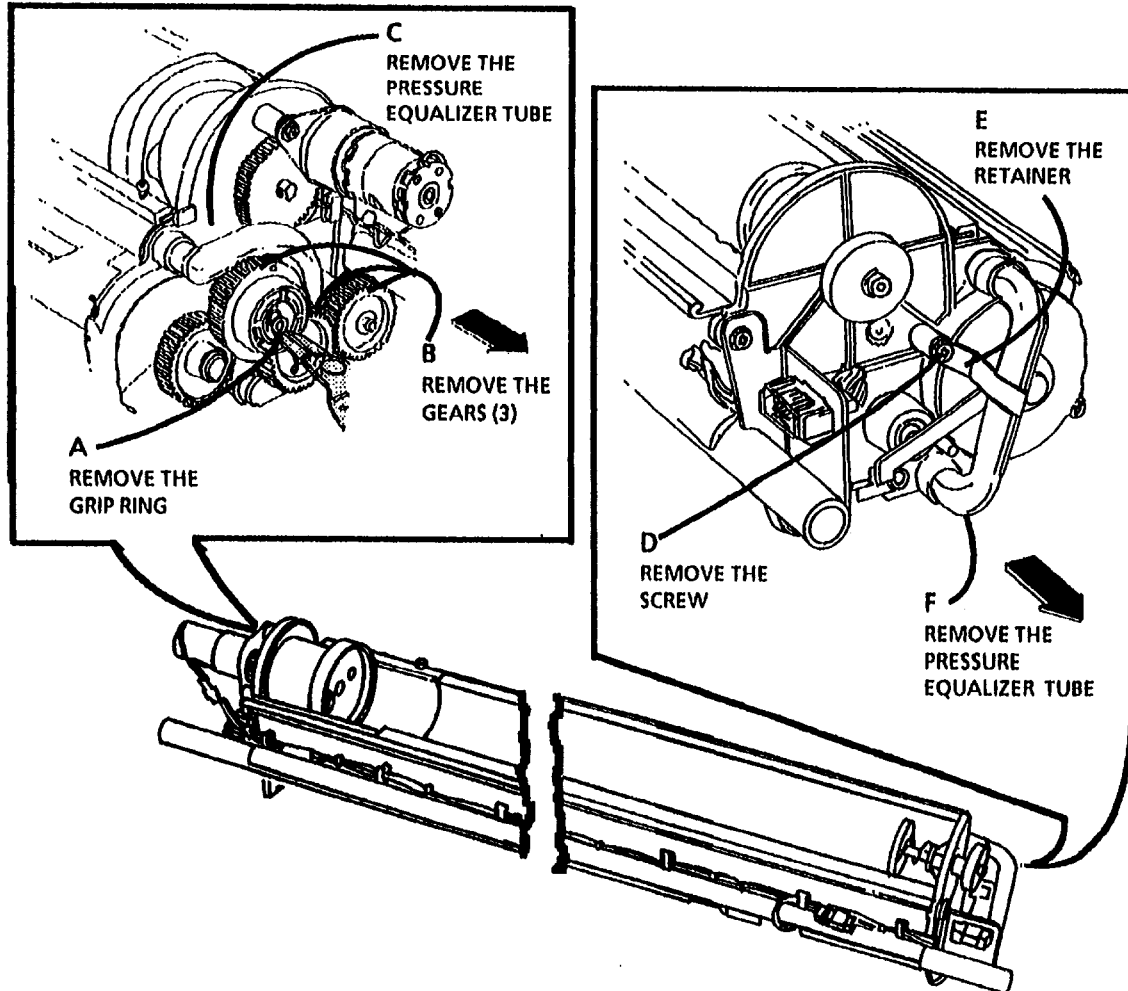

Figure 11. Remove the Pressure Equalizer Tubes
18. (Figure 11): Remove the Pressure Equalizer Tubes.